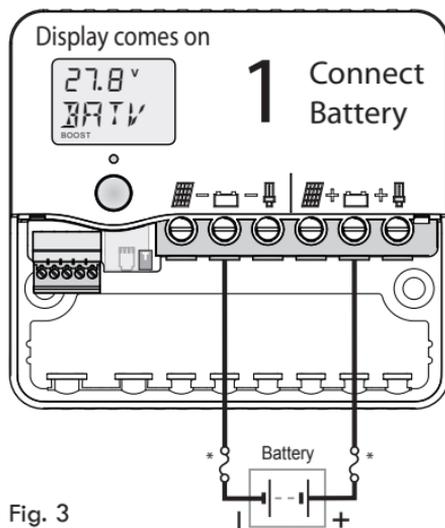

Fig. 3
- a. Connect the battery first. Positive to Battery +, Negative to Battery -. If the display comes on, then connection is correct. (see figure 3)